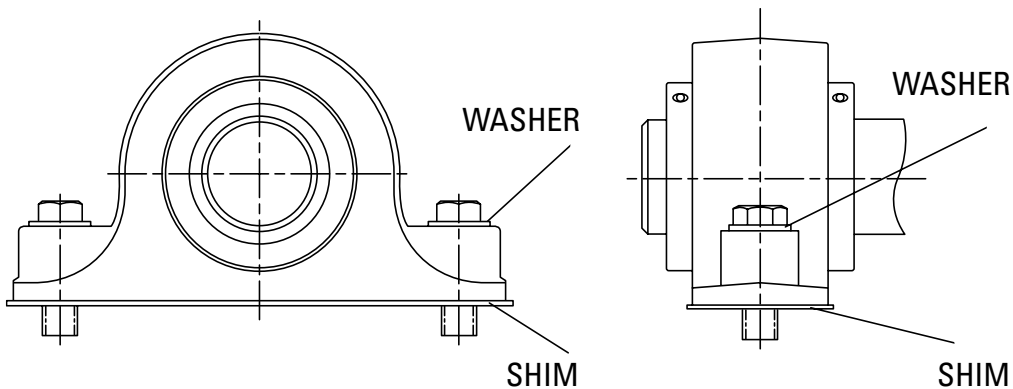

Fig. 1. Use Washers And Full Shims.
4. Loosely install the housed unit mounting bolts. Check the housed unit alignment. Verify mounting surfaces are in the same flat plane to help achieve good alignment. If shimming is required to minimize misalignment, use full shims across the entire housing base where possible (fig. 1). Washers should be properly sized to the bolt diameter and should not be an SAE grade, which is smaller.
- Loosely install the housed unit mounting bolts. Check the housed unit alignment. Verify mounting surfaces are in the same flat plane to help achieve good alignment. If shimming is required to minimize misalignment, use full shims across the entire housing base where possible (fig. 1). Washers should be properly sized to the bolt diameter and should not be an SAE grade, which is smaller.
5. Loosely install the housed unit mounting bolts. Check the housed unit alignment. Verify mounting surfaces are in the same flat plane to help achieve good alignment. If shimming is required to minimize misalignment, use full shims across the entire housing base where possible (Figure 1). Washers should be properly sized to the bolt diameter and should not be an SAE grade, which is smaller.